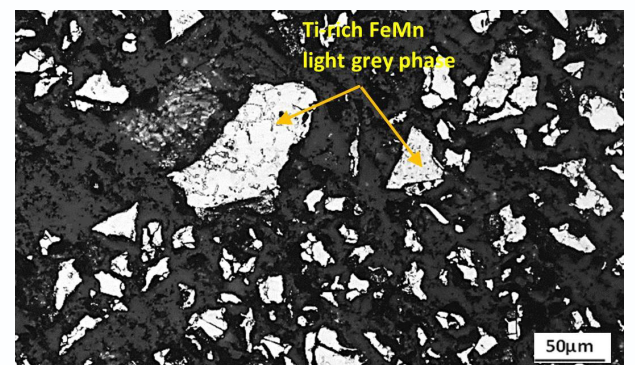

Figure 6: Microstructure of TiFeMn Powder Alloy
Typically, a sample is etched in a suitable etchant (e.g. nital, a mixture of nitric acid and alcohol). This reveals surface structure features e.g. grain boundaries (GB), non-metallic inclusions, precipitates etc. (Figure 5a/b, Figure 6)